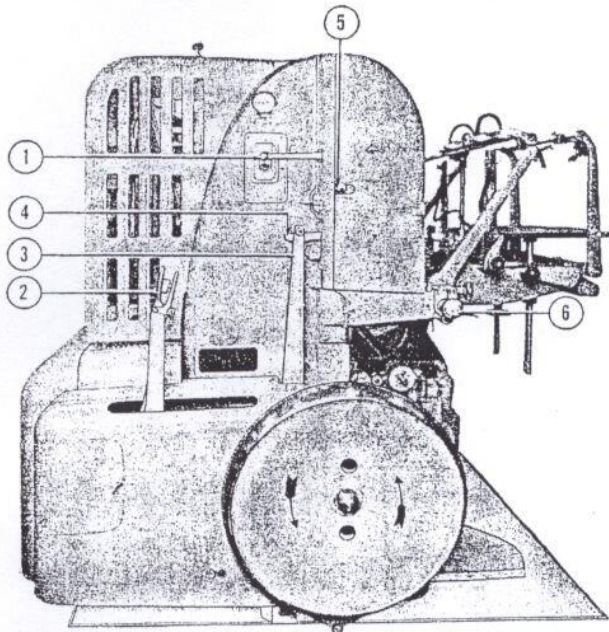

Figure 10—Operating Controls
2. OPERATING CONTROLS. (See figure 10.)—The following information identifies and explains the function of all controls used during press operation.
a. **START-STOP PUSH BUTTONS.**—The "START-STOP" push buttons (1) control the starting and stopping of the press motor.
b. **BELT-TIGHTENER LEVER.**—The belt-tightener lever (2) is used during press operation to start and stop the press while the motor continues to operate. When the lever is released (pulled to the left) the press drive belt is disengaged from the pulley and braking is applied to the press flywheel.
c. **BELT-TIGHTENER TRIP AND AUTO-STOP LEVERS.**—The belt-tightener trip and auto-stop levers (3) and (4) automatically release the belt-tightener lever when sheets are not being fed and automatic stop control knob (5) has been turned to its up position. After tripping occurs, the belt-tightener trip and auto-stop levers are automatically re-engaged.
d. **FEEDER CONTROL AIR VALVE HANDLE.**—The feeder control air valve handle (6) controls the operation of the feeder air valve which supplies suction to the separator shoes. When handle is pushed in, suction is supplied to shoes for sheet pick-up.